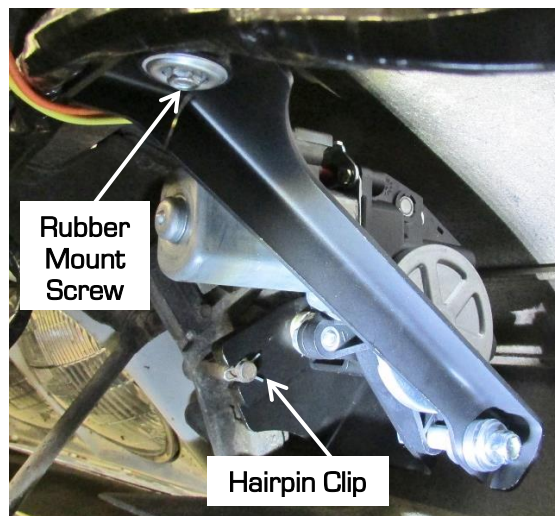

Figure 5 – Install Motor Assembly
12. Install the assembly onto the driver's side headlight door pivot shaft. Move the headlight door by hand until the rectangular part of the shaft can be inserted into the rectangular hole in the motor pitman arm. The headlight motors are shipped with the pitman arm in a certain position so that the headlight doors can be connected to the actuator in between the full open and full closed position of the headlight doors. **NOTE: Do not attempt to move the pitman arms on the actuators by hand as this could cause permanent damage to the actuators.** Line up the slot in the motor bracket with the hairpin clip shaft and slide the actuator assembly in place. Install a hairpin clip (Item 7) on the shaft and a rubber mount screw (Item 6) into the rubber mount, attaching it in the same location as the original motor (Figure 5). Repeat this procedure to install the passenger's side actuator assembly (Item 2).